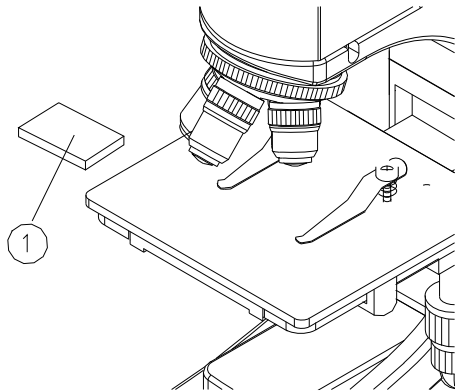

Fig. 26
3.3.7 Placing Specimen (Fig.26)